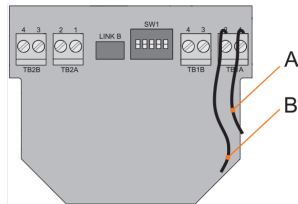

Figure 4
- Connect the leads according to the circuit diagram (Figure 4)